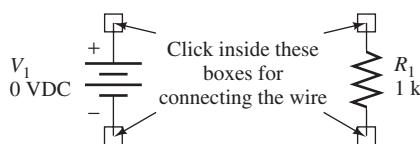
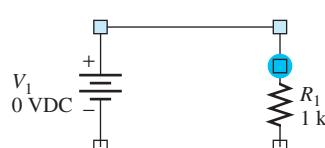

FIGURE 2.65 Empty square box on voltage source and resistor.
FIGURE 2.66 Colored circle for connection confirmation.
7. To connect the voltage and resistor, click “Place” > “Wire,” or the icon on the vertical bar to the right. Left-click inside the square box of the voltage source (shown in Figure 2.65) to create the connection between the voltage source and the wire. For the other end of the wire, click on the empty square box of the resistor to create a connection between the voltage source and the resistor. A colored solid circle will appear during the connection if it is connected properly (shown in blue in Figure 2.66). Right-click and choose “End Wire” after connecting the wire to the resistor.